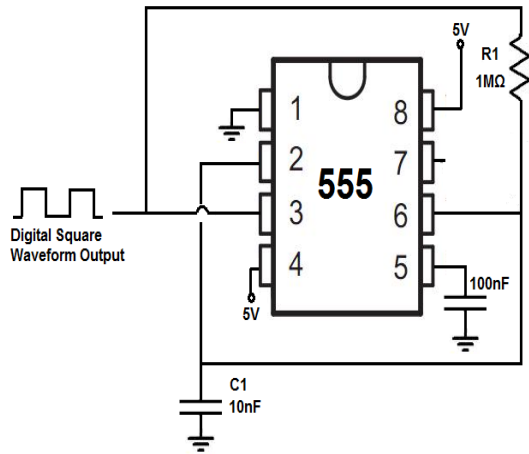

Figure 1: Connection in 555 timer circuit
1. Connect 555 timer according to the figure 1